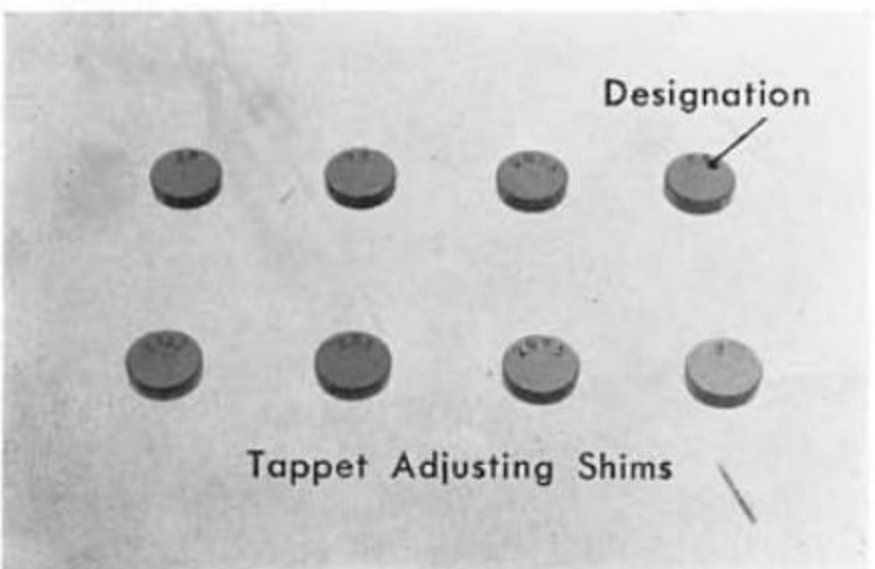

Fig. 1G-8
7. Remove the engine mounting bracket by removing the bolts and washers (Fig. 1G-5).